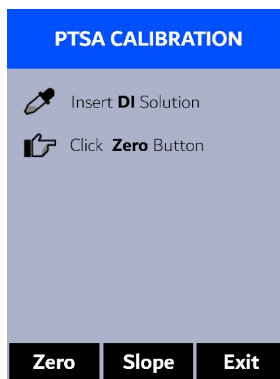

Figure 10.
5. Press **OK** to launch the **PTSA CALIBRATION** screen (Figure 10).